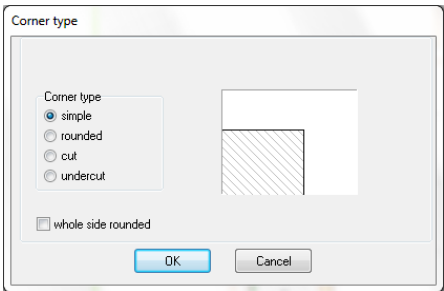

Fig. 211 – types of corners
- then go to the window in which you can select the type of cut (Fig. 211).